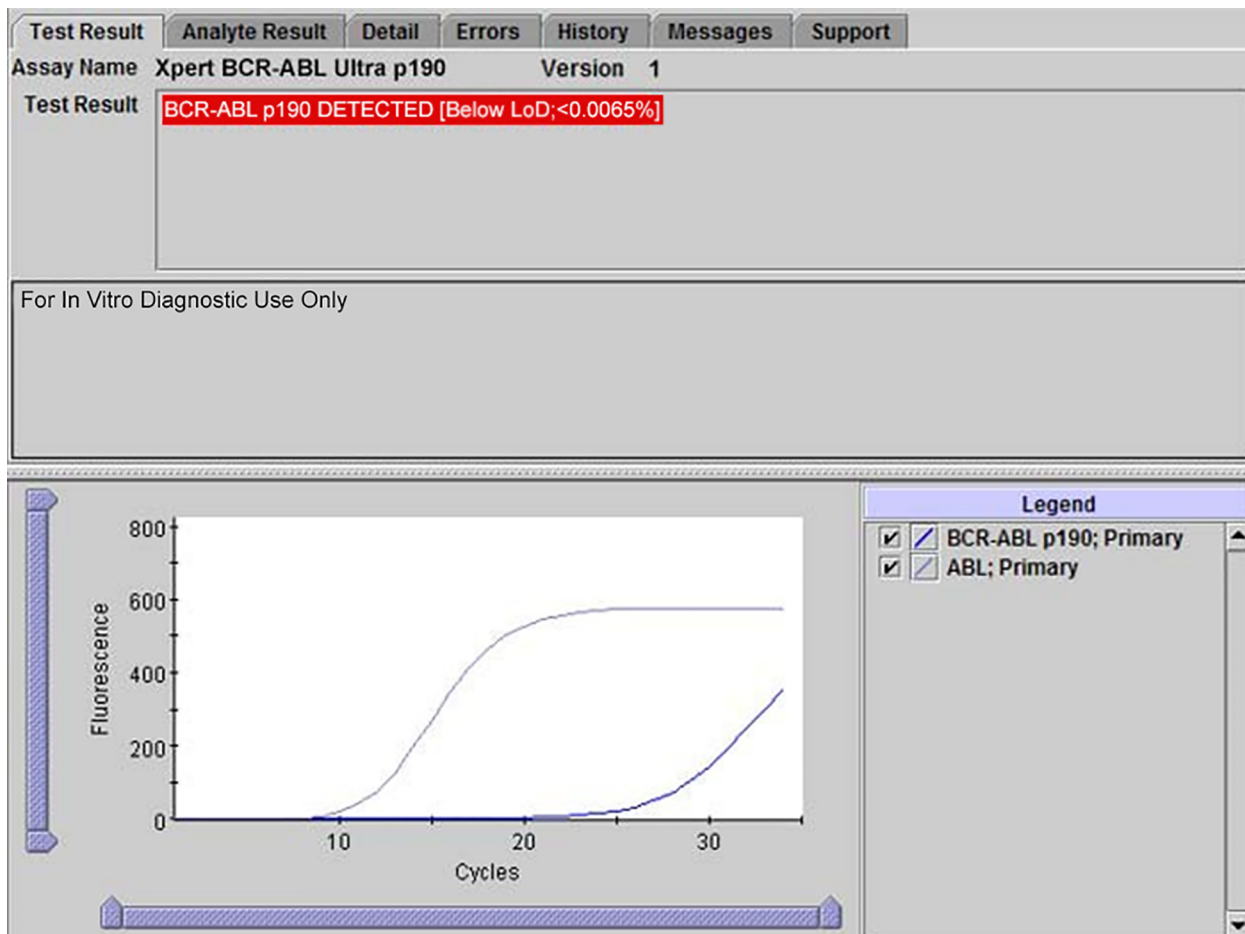

Figure 3. GeneXpert Dx View Results Window: BCR-ABL p190 DETECTED [Below LoD; <0.0065%]
|   |  |              | BCR-ABL p190 DETECTED [Below LoD;&lt;0.0065%]         | Calculated% ratio is below the limit of detection and is not reported. See Figure 3.    |
**Result:** BCR-ABL p190 DETECTED [Below LoD; <0.0065%]. See Figure 3.